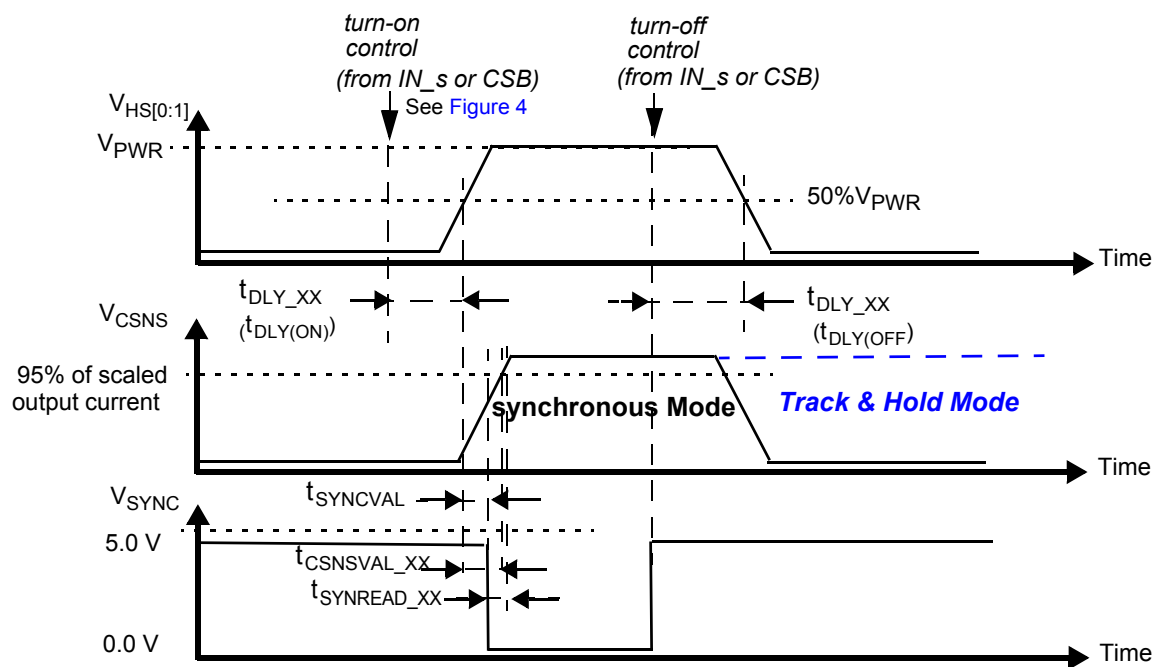

Figure 9. Synchronous & Track-and-Hold Current Sensing Modes: Associated Delay & Settling Times
29. Time required to switch off the channel after detection of overtemperature (OT), overcurrent (OC), SC or UV error (time measured between start of the negative edge on the FSB pin and the falling edge on the output voltage until $V(\text{HS}[0:1]) = 50\%$ of V_{PWR}).
30. Settling time ($= t_{\text{CSNSVAL_XX}}$), SYNC output signal delay ($= t_{\text{SYNCVAL_XX}}$) and Read-out delay ($= t_{\text{SYNREAD_XX}}$) are defined for a stepped load current ($100\text{ mA} < I(\text{LOAD}) < \text{IOCLX A FOR CSNS_RATIO_S} = 1$, AND $300\text{ mA} < I(\text{LOAD}) < \text{IOCLX A}_0$ FOR $\text{CSNS_RATIO_S} = 0$). (see Figure 9 and Output Current Monitoring \(CSNS\))
The CS pin allows independent current monitoring of channel 0 or channel 1 up to the steady-state overcurrent threshold. It can also be used to sense the device temperature. The different functions are selected by setting bits CSNS1_en and CSNS0_en to the appropriate value (Table 23). When the CSNS pin is sensed during switch-off in the (optional) track & hold mode (see Figure 9), it outputs the scaled value of the load current as it was just before turn-Off. When several devices share the same pull-down resistor, the CSNS pins of devices the current of which is not monitored must be tri-stated. This is accomplished by setting CSNS0_en = 0 and CSNS1_en = 0 in the GCR register (Table 10). Settling time ($t_{CSNSVAL_XX}$) is defined as the time between the instant at the middle of the output voltage's rising edge ($HS[0:1] = 50\%$ of V_{PWR}), and the instant at which the voltage on the CSNS-pin has settled to $\pm 5.0\%$ of its final value. Anytime an overcurrent window is active, the CSNS pin is disabled (see Overcurrent Detection on Resistive and Inductive Loads). The current and temperature sensing functions are unavailable in Fail-safe mode and in Normal mode when operating without the V_{DD} supply voltage. In order to generate a voltage output, a pull-down resistor is required ($R(CSNS)=1.0\text{ k}\Omega$ typ. and $470 < R(CSNS) < 10\text{ k}$). When the current sense resistor connected to the CSNS pin is disconnected, the CSNS voltage is clamped to $V_{CL(CSNS)}$. The CSNS pin can source currents up to about 5.6 mA.
To synchronize current sensing with an external process, the SYNC signal can be connected to a digital input of an external MCU. SYNC is asserted logic low when the current sense signal is accurate and ready to be read. The current sense signal on the CSNS pin has the specified accuracy $t_{SYNREAD_XX}$ seconds after the falling edge on the SYNC pin (Figure 9) and remains valid until a rising edge is generated. The rising edge that is generated by the SYNC pin at the turn-OFF instant (internal or external) may also be used to implement synchronization with the external MCU. Parameter $t_{SYNCVAL_XX}$ is defined as the time between the instant at the middle of the output-voltage rising edge ($HS[0:1] = 50\%$ of V_{PWR}), and the instant at which the voltage on the SYNC-pin drops below 0.4 V (V_{SOL}). The SYNC pins of different devices can be connected together to save μ -controller input channels. However, in this configuration, the CSNS function of only one device should be active at a time. Otherwise, the MCU does not determine the origin of the SYNC signal. The SYNC pin is open drain and requires an external pull-up resistor to VDD.